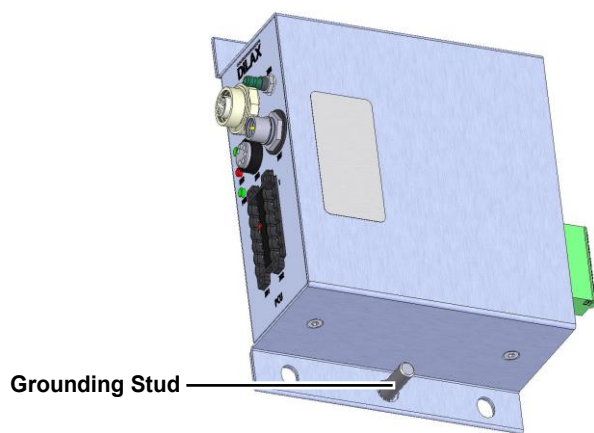
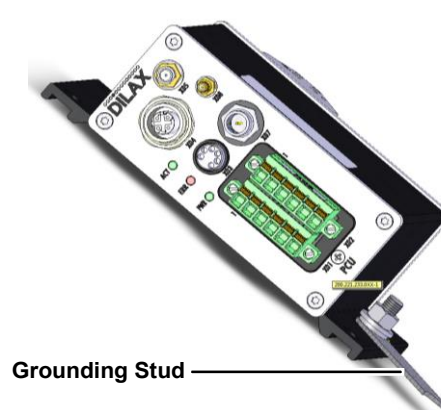

Figure 6: IP40 housing grounding stud location
Figure 7: IP54 housing grounding stud location
- **Chassis GND:** For best EMC behavior the PCU chassis is capacitive coupled to internal circuitry ground. In terms of DC, the PCU chassis is isolated. Chassis ground is connected via a M6 grounding stud, see Figure 6 and Figure 7.